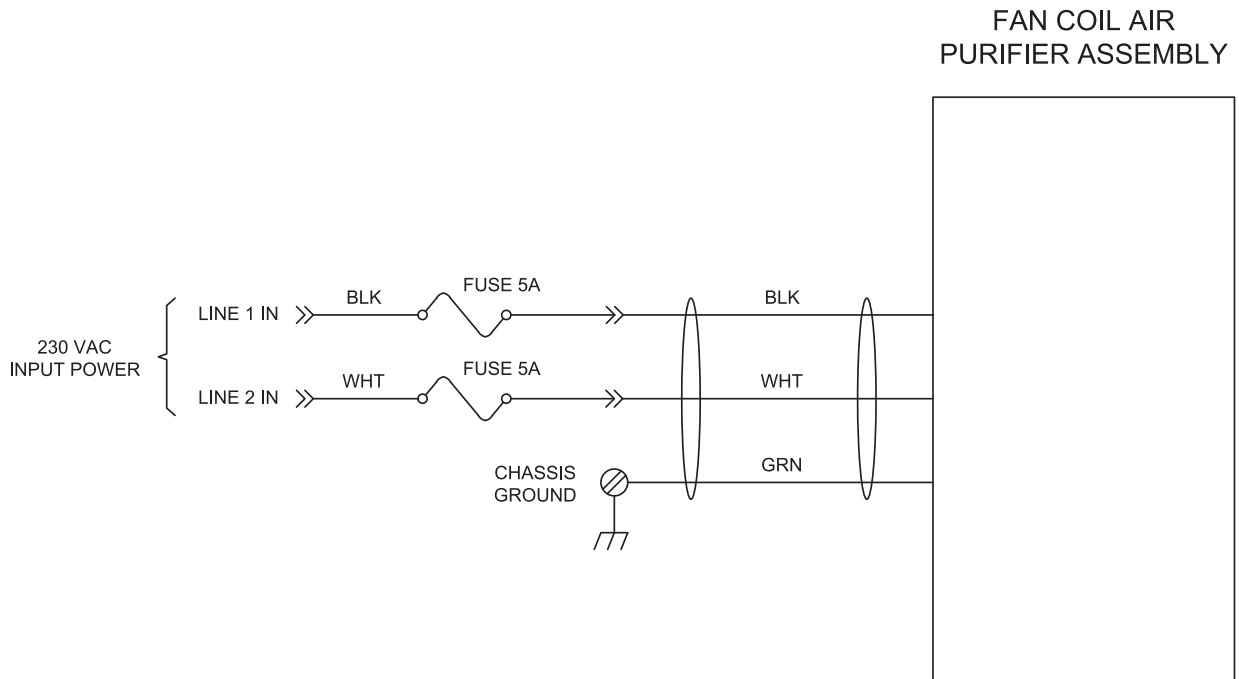
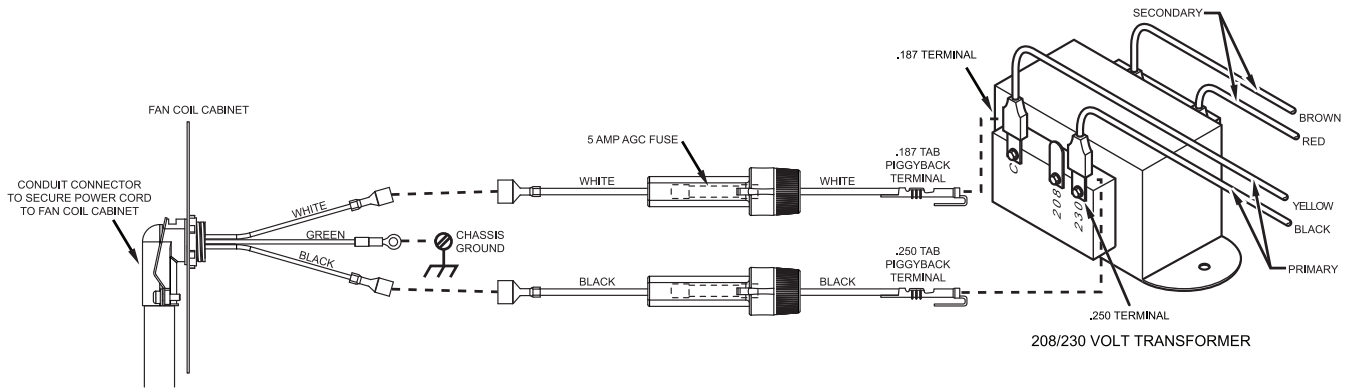

Fig. 13 – Fan Coil Schematic
Fig. 14 – Quick Connect Kit Installation Illustration
2. Remove the yellow and black primary wires from the fan coil air handler transformer terminals and connect the quick connect “piggyback” terminals of the quick connect kit leads exiting the air purifier power conduit assembly to the transformer terminals. Reconnect the yellow and black primary wires to their respective transformer terminals on the “piggyback” terminals. Attach the ground ring terminal on the third wire to fan coil air handler chassis ground (Fig. 13 and Fig. 14).